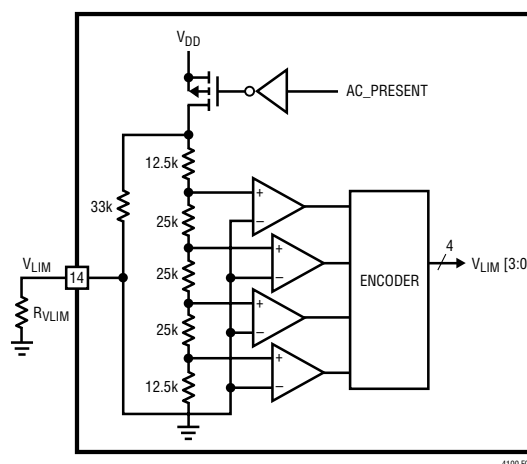

Figure 5. Simplified  $V_{LIM}$  Circuit Concept ( $I_{LIM}$  is Similar)
**Table 7.  $V_{LIM}$  Trip Points and Ranges (See Figure 5)**